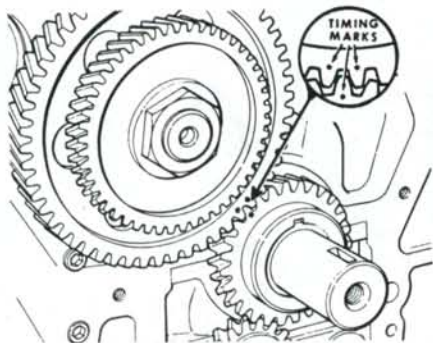

Fig. 50—Engine timing gear train showing timing marks.
51. TIMING MARKS. The crankshaft gear and camshaft gear are provided with timing marks as shown in Fig. 50. Marks should be aligned as shown when units are installed. Idler gears are not timed, injection pump timing is accomplished during pump installation as outlined in paragraph 76.
53. CRANKSHAFT GEAR. The crankshaft gear can be removed after removing the timing gear cover and timing idler gear. Use a suitable jaw type puller and a 5/8 inch stepped center to protect crankshaft threads. Renew the crankshaft key and heat new gear before installing. Be sure timing marks on crankshaft and camshaft gears are aligned as shown in Fig. 50 when installing gear.
When reinstalling camshaft, make sure timing marks are aligned as shown in Fig. 50. Complete the assembly by reversing the disassembly procedure. Adjust the valves as outlined in paragraph 44. Time the diesel injection pump as outlined in paragraph 75.